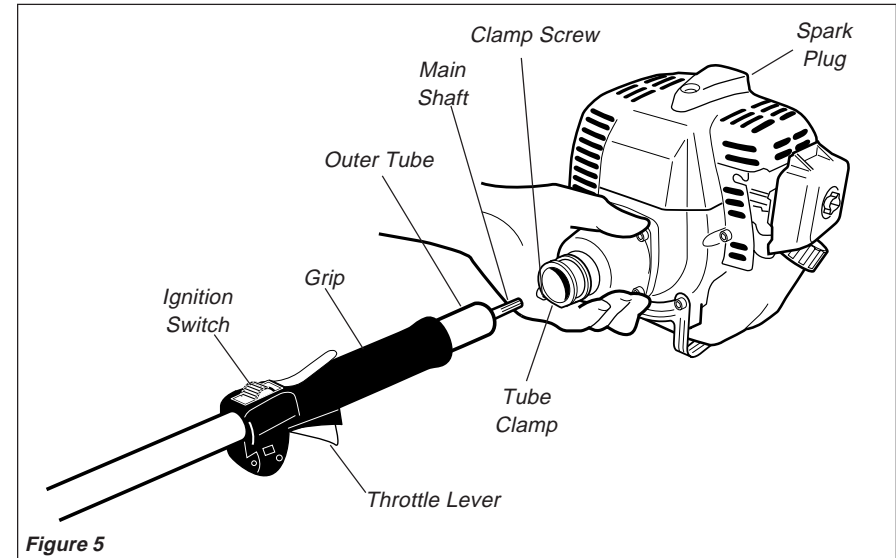

Figure 5
1. Place the powerhead on a clean, flat surface, spark plug facing up. See Figure 5.
4. Slide the outer tube into the tube clamp until the tube bottoms. If installation is difficult, rotate the outer tube or gearcase shaft slightly until you feel the mainshaft splines engage with the powerhead. See Figure 5.
5. Position the outer tube so that the ignition switch is facing up and the throttle lever is facing down. See Figure 5.